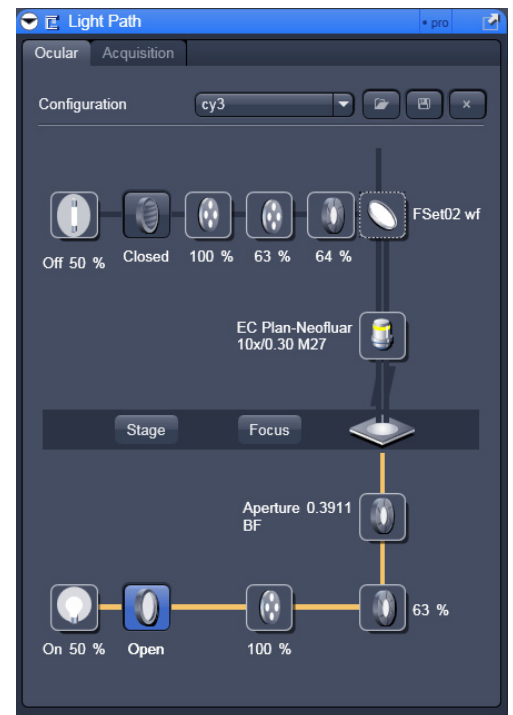

Fig. 11 Microscope Control window, e.g.: Axio Imager.Z1
Click on the **Ocular** button for direct observation. Then choose the **Light Path** tool from the **Left Tool Area**. Since the **Ocular** button has been chosen before, the **Oculars** tab is pre-selected and presented as the front tab in this tool (Fig. 11).
- Open the graphical pop-up menu by clicking on the **Objective** symbol and select the objective lens for your experiment (Fig. 11).